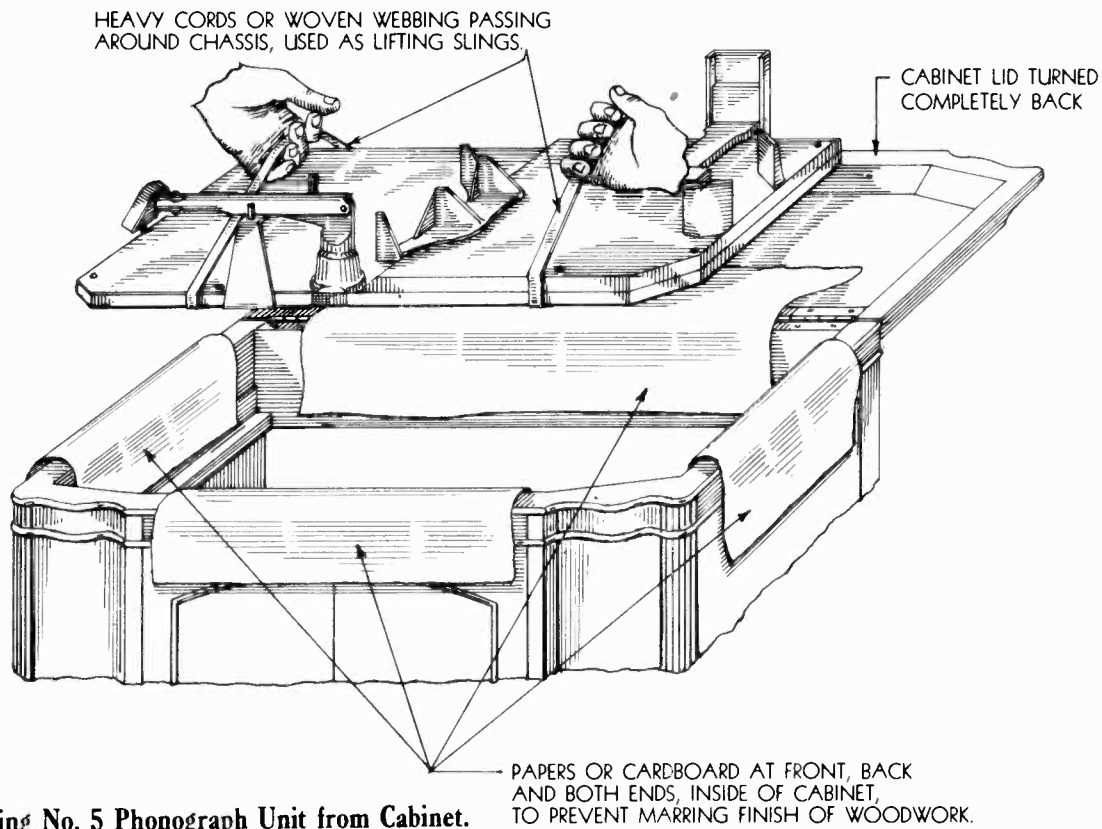

Fig. 20 - Removing No. 5 Phonograph Unit from Cabinet.
- (f) Now, take two pieces of woven webbing or heavy wrapping cord, pass completely around the No. 5 Phonograph Chassis, one near each end, and tie so as to provide two slings for lifting chassis from the cabinet. See Fig. 20.
- (g) Lift No. 5 chassis out of cabinet, taking care not to mar the inside finish of the cabinet. Placing several strips of cardboard or heavy paper at front, back, and both ends inside of cabinet, so as to cover the finished wood surfaces will provide protection against marring. See Fig. 20.